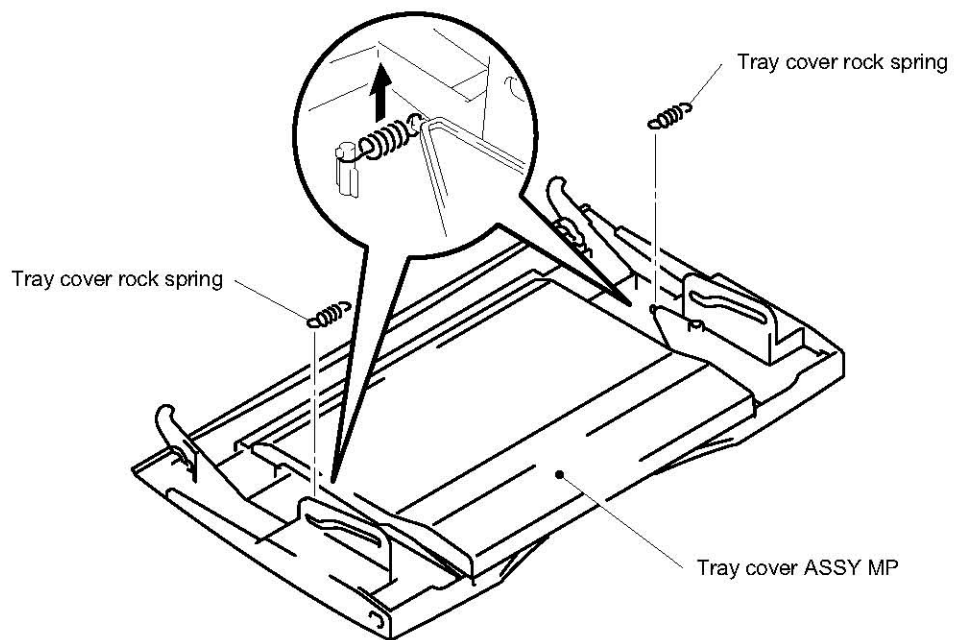

Fig. 4-18
- (1) Open the tray cover ASSY MP. Release the bosses at the right and left hand sides of the tray ASSY MP by bending the tray cover ASSY MP slightly and pull out the tray ASSY MP in the direction of the arrow as shown in Fig. 4-18.